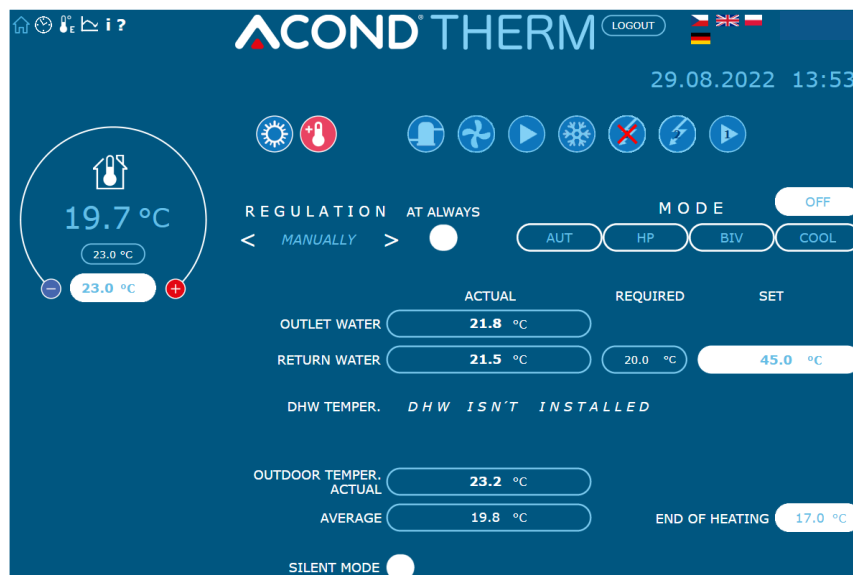

Fig 5: Web browser home page
Confirm your name and password by clicking the Login button or the Enter key and the main page will appear - see **Fig 5**.
1. **Home page**  (**Fig 5**) is displayed after logging in to the system and any time you click on the little house icon.